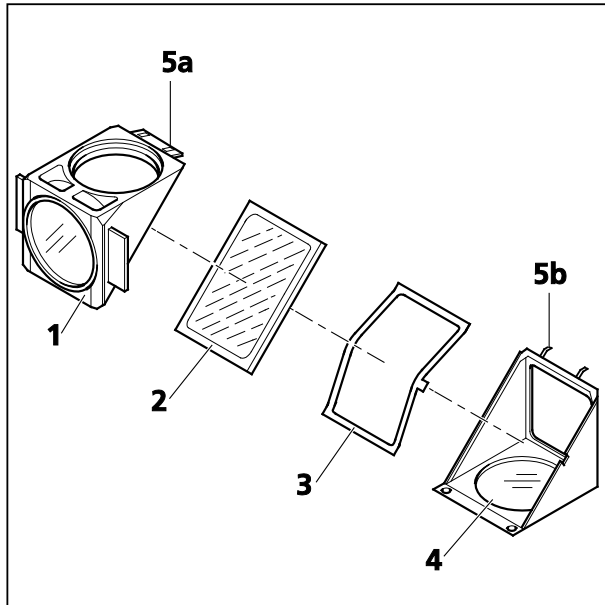

Fig. 23 Changing the beam splitter - Continued
- Tip up the **excitation** half of the module (Fig. 23/1), which now is on top, and remove it from the retaining pins (Fig. 23/5b) on the bottom **emission** half of the module (Fig. 23/4).
- Remove the beam splitter (Fig. 23/2) and spring-loaded frame (Fig. 23/3) from the bottom half of the module.
- Remove the old beam splitter and carefully place the new one onto the spring-loaded frame (Fig. 23/3) with the reflective side facing up. Then insert both parts together into the bottom half of the module. Ensure that the side tongue of the spring-loaded frame is in the appropriate recess in the bottom half of the module.
- Place the **excitation** half of the module (Fig. 23/1) onto the **emission** half (Fig. 23/4) (retaining pins Fig. 23/5b and eyelets Fig. 23/5a mesh with one another). Hold both halves together and turn them back into the installation position.